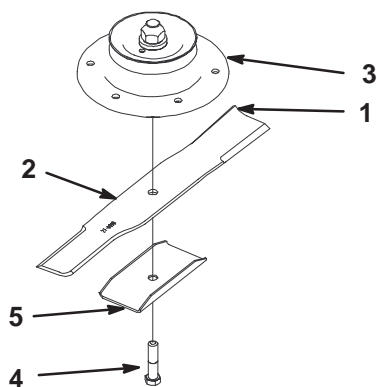
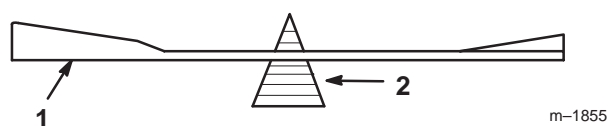

Figure 47
Figure 49
1. Hold the blade end using a rag or thickly-padded glove. Remove the blade bolt, blade stiffener and blade from the spindle shaft (Fig. 47).
2. Check the balance of the blade by putting it on a blade balancer (Fig. 49). If the blade stays in a horizontal position, the blade is balanced and can be used. If the blade is not balanced, file some metal off the end of the sail area only (Fig. 47). Repeat this procedure until the blade is balanced.
1. Install the blade onto the spindle shaft (Fig. 47).
Important The sail part of the blade must be pointing upward, toward the inside of the mower to ensure proper cutting (Fig. 47).
2. Install the blade stiffener and blade bolt (Fig. 47). Torque the blade bolt to 85–110 ft-lb (115–140 N•m).